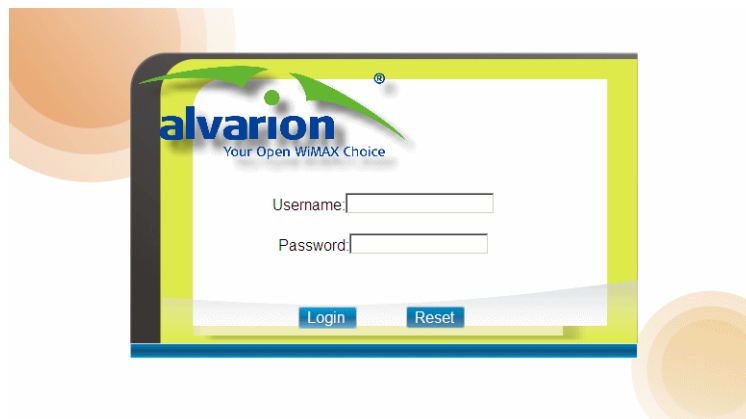

Figure 4: Login Window
- 1 Open a web browser and enter the default IP address `http://192.168.254.251`. Figure 4 is displayed.